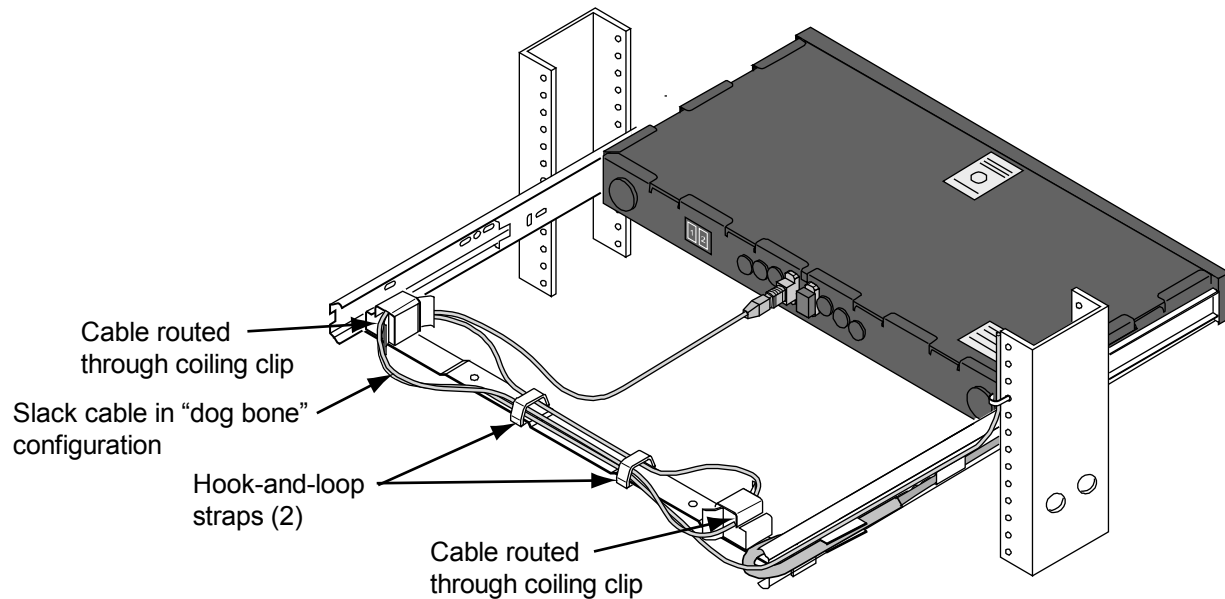

Figure 6. Store Slack Trunk Cable at the Shelf
4. If slack trunk cable will be stored at the shelf, attach one strap near each hole in the cable management bar. Refer to Figure 6.
3. If storing slack trunk cable at the shelf, route the cable through the cable coiling clips in a "dog-bone" configuration as shown in Figure 6.
Note: The trunk cable can be coiled in either a clockwise or counterclockwise direction. Ideally, the trunk cable coil should end with the cable exiting a coiling clip on the shelf-side of the clip. Refer to Figure 6.